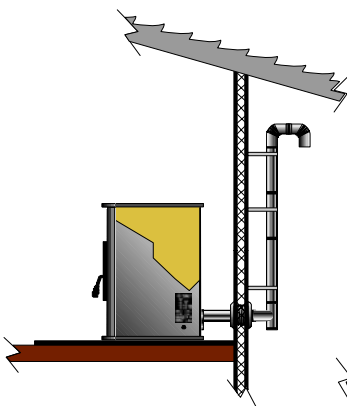

Figure 22
-  **HORIZONTAL, OUT THE WALL, THEN VERTICAL** to a minimum of 5 feet, into a 90-degree elbow and terminating with a 45-degree elbow pointed downward. Figure 22.